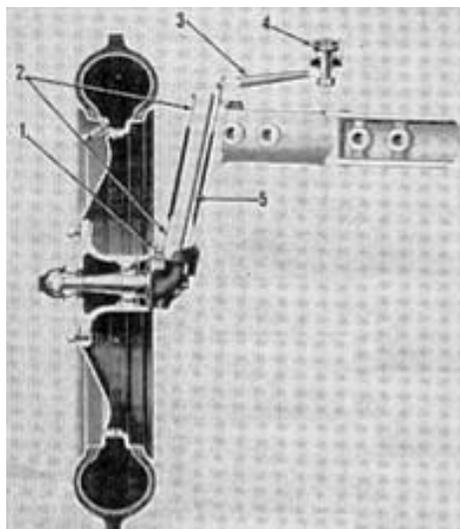

Fig. F03 - Front axle hub and spindle on models 2N-8N-9N.
2. To rebush axle spindles, first block up tractor front end and remove steering arms. Slide spindles with wheels attached, out of axle ends. Drive old bushings out of axle and install new bushings, using a piloted installing tool. New steel bushings are presized and are not reamed. Check and adjust wheel alignment, after reinstallation of axle parts removed. See Fig. F03.